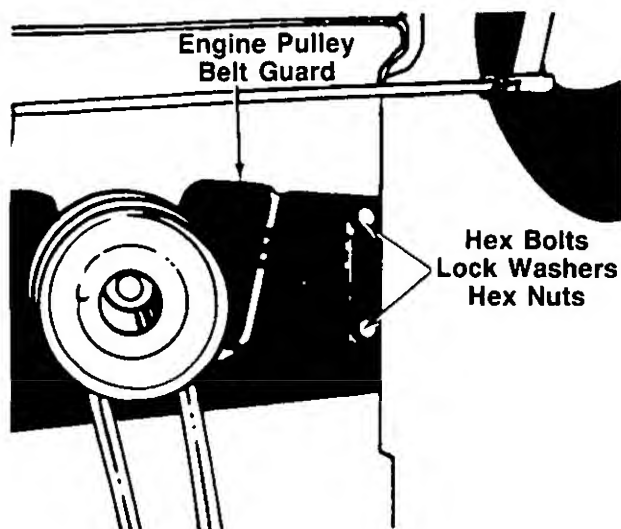

FIGURE 28.
5. Remove the two bolts, lock washers and nuts on each side of the frame which hold the engine pulley belt guard to the frame. See figure 28.